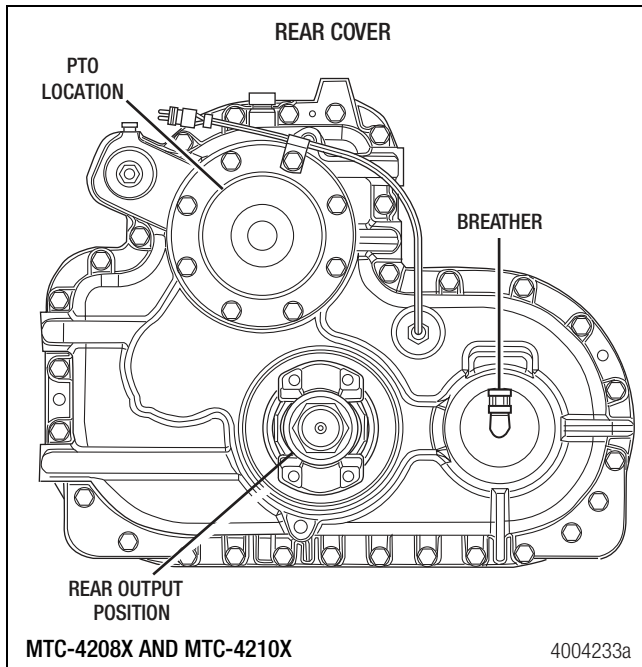

Figure 7.51
3. Remove the breather assembly. Figure 7.51.